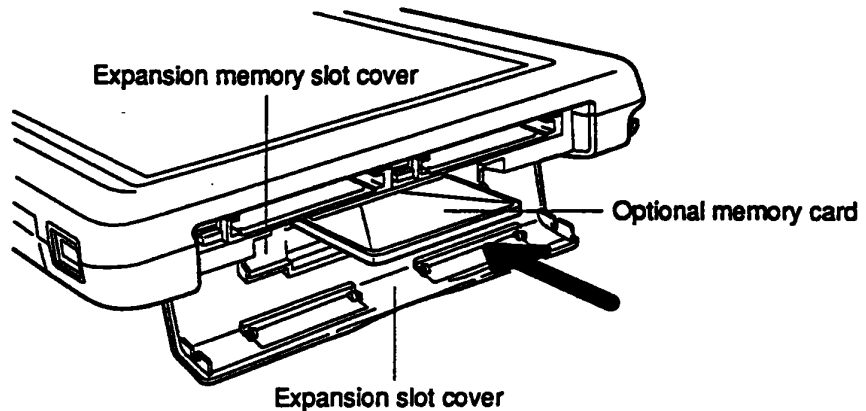

Figure 4-8 Installing the Optional Memory Card
To install an optional memory card in the T100X, follow the steps below and refer to Figure 4-8.
2. Close the **expansion memory slot cover** (Figure 4-8).